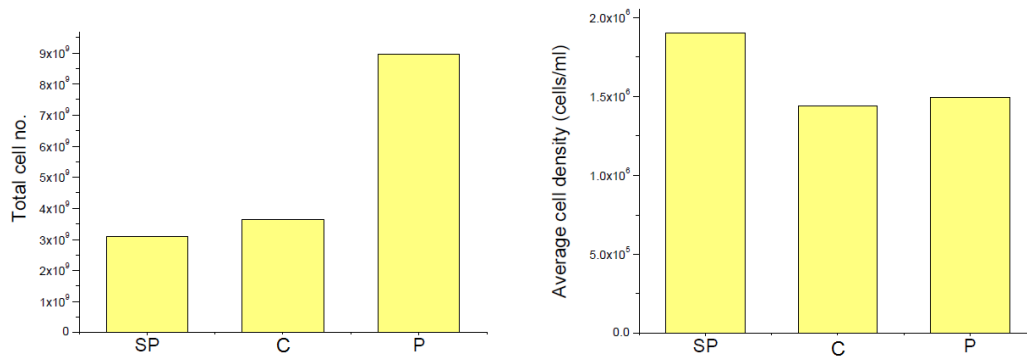
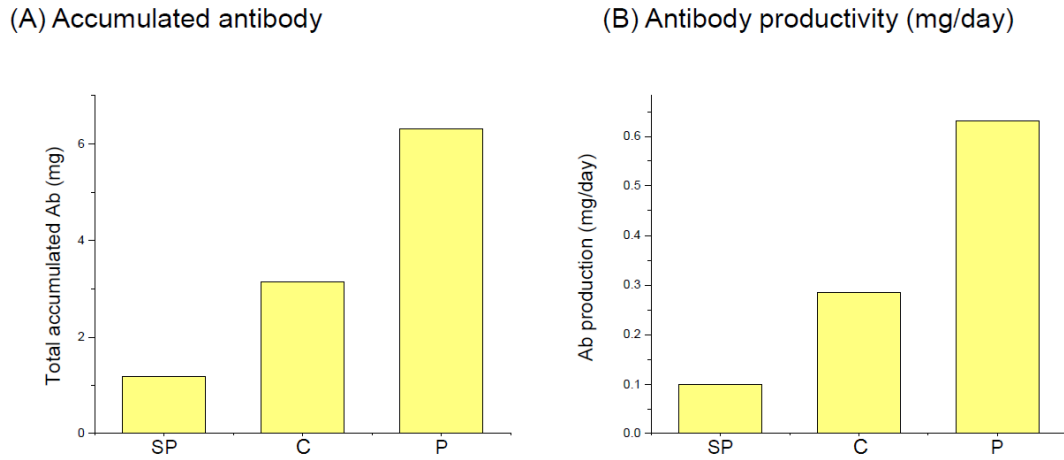
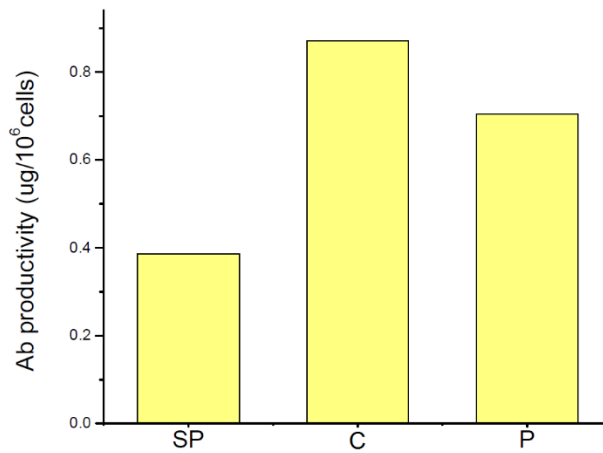
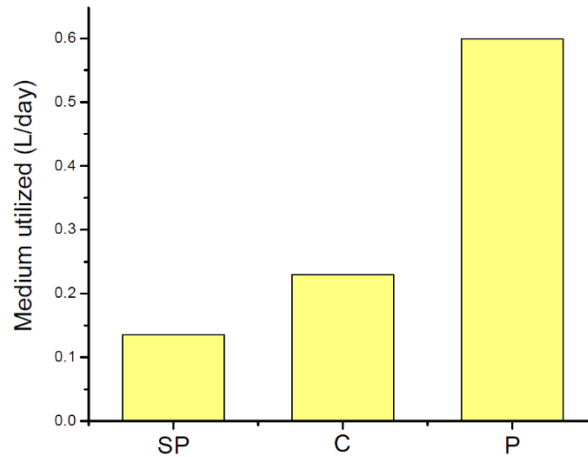

Figure 1. Cell Growth: (A) Total cells, (B) Cell density
Figure 3. MAb production and productivity in different culture systems
Figure 4. Antibody productivity per million cells
Figure 5. Medium Consumption Rate (L/day)
As shown in figure 1, total cell number in CelCradle-500P system was the highest among the other groups (approximately 8.96×10^9 / CelCradle-500P) after 10 days cultivation. CelCradle-500 system (about 3.64×10^9 / CelCradle-500), and spinner flask got similar cell density (3.09×10^9) after 12 days cultivation. However, if we look into figure 1(A), it was found that that CelCradle-500 and -500P shows similar average cell density. It indicates that sufficient supply of cultural medium in CelCradle-
Figure 3 (A) and (B) shows total antibody yield and productivity per day of spinner flask (SP), CelCradle-500 (B), and CelCradle-500P (P) system respectively. The total yield of monoclonal antibody is P > C > SP (figure 3(A)). This suggested that the antibody production depends on the type of culture systems
Figure 4 shows antibody productivity per 10^6 cells. Compare with B and P system, although total accumulated antibody of P is higher than B (figure 3(A)), the antibody productivity/ 10^6 cells of P is slightly lower than B. Compare figure 4 with figure 1 (A): although total cell number in P is approximately 2.5 folds higher than B, the antibody productivity/ 10^6 cells of P is slightly lower than B.
Figure 5 shows medium consumption rate (L/day) of OKT 3 cells. The medium consumption rate of these 3 systems also shows similar pattern ($P > C > SP$) to total accumulated antibody (figure 3(A)) and antibody productivity/day (figure 3(B)). Combine figure 3 and figure 5 for comparison, it revealed that more culture medium consumed, more cells and antibody was produced. It indicates that antibody production of OKT3 needs good nutrient supply.